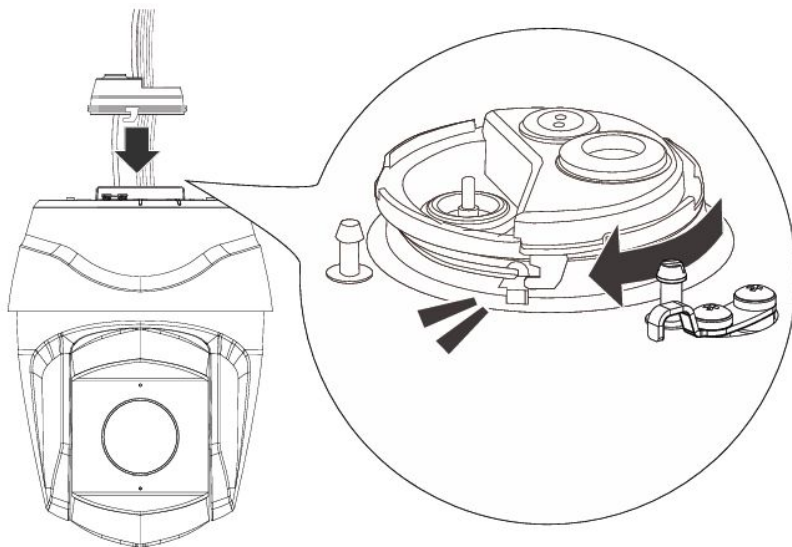

Figure 1-6
Step 5 Reseat the cable passthrough plate, then twist it clockwise to lock it into place. See Figure 1-6.